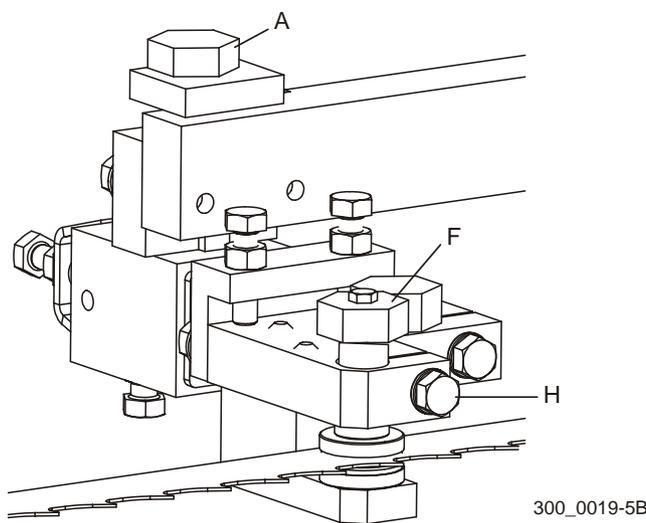

FIG. 5-16
See Figure 5-16. Turn bolt (F) counterclockwise to raise the top guide disk off the blade. Turn bolt (A) counterclockwise to lower the bottom guide disk.